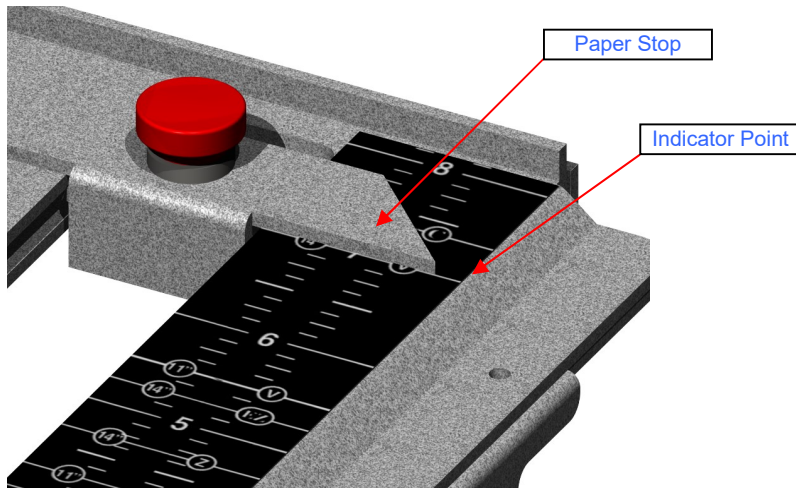

Figure 12: Paper Stop Alignment
3. Line up the tips on both sides of the paper stop with the appropriate line on the scale so that the appropriate white line on the scale is just visible [see Figure 12].